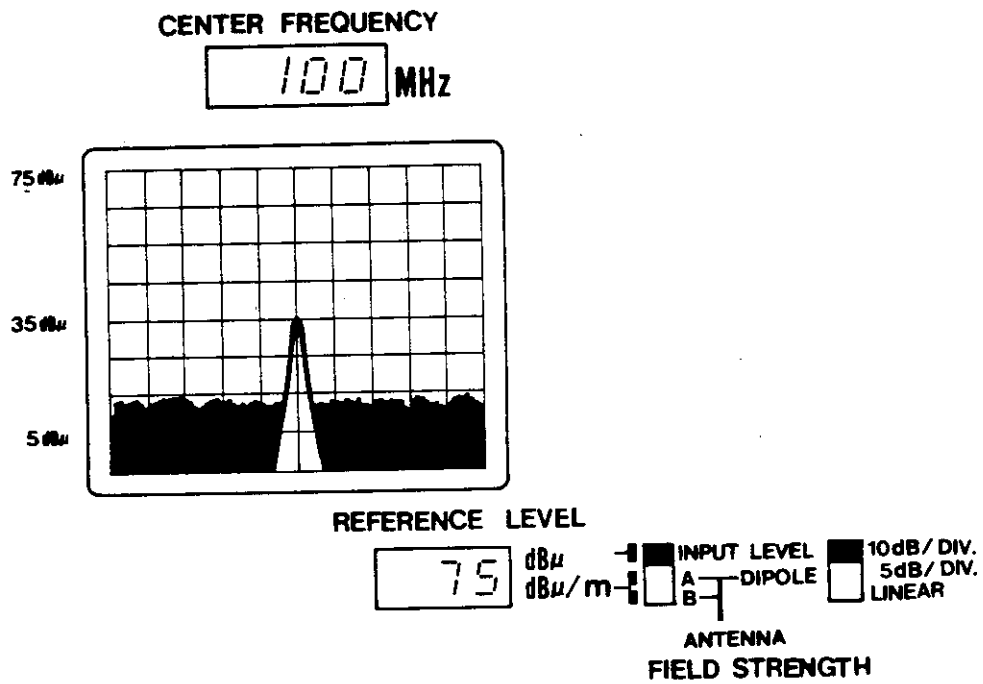

Fig. 3-31 Average Noise Level Test Procedure
- (3) Connect the Signal Generator output signal to **INPUT** of the instrument. Switch the external Attenuator to 50dB. [Fig. 3-31]